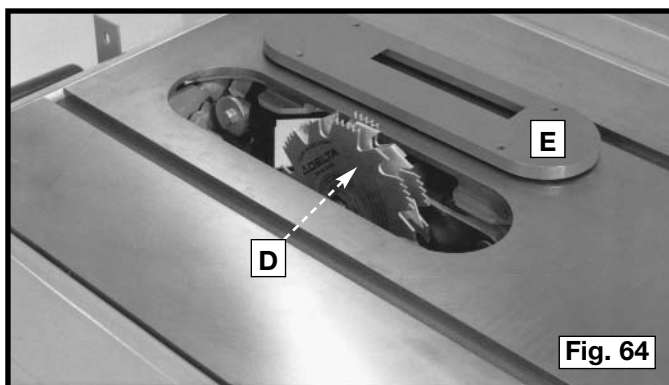

Fig. 64
2. Attach the dado head set (D) Fig. 64, to the saw arbor.
⚠ CAUTION The accessory dado head set table insert (E) FIG. 64, must be used in place of the standard table insert.